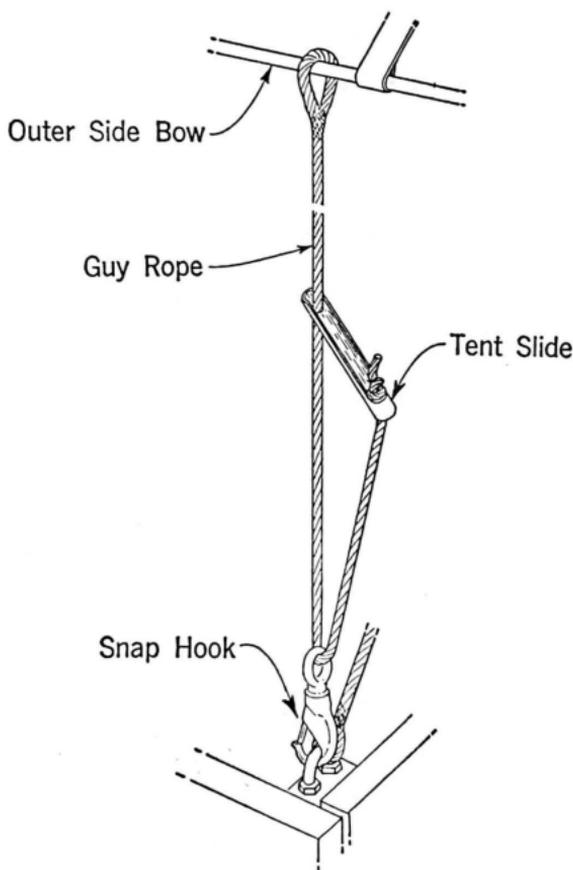

Fig. 2
2.05 The side bows are equipped with guy ropes for anchoring the tent on a platform. Each guy rope is equipped with a tent slide (tensioning device) and a snap hook. These facilitate the installation and removal of the tent. The tent slide and snap hook are illustrated in Fig. 2.